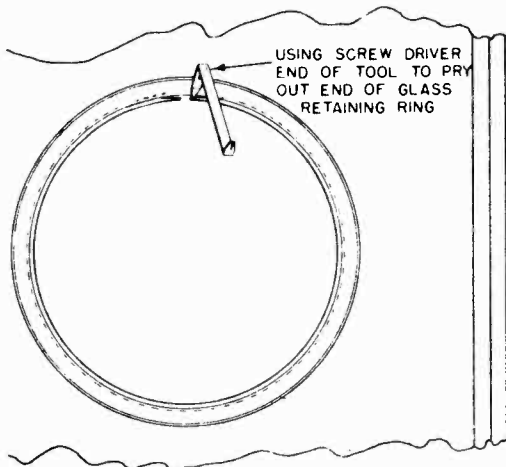

FIG. 1
1. The glass in the cabinet front panel must be removed to allow insertion of the station call letters, as described later. This glass is held in place by a split ring (the split is at the top). See Fig. 1. The tool illustrated is furnished in the same envelope with the instruction manual. Use this tool to remove the glass. Be very careful not to insert the tool any deeper than indicated in Fig. 1. Be very careful not to insert the tool so deep that it touches the glass, else the glass may become chipped.